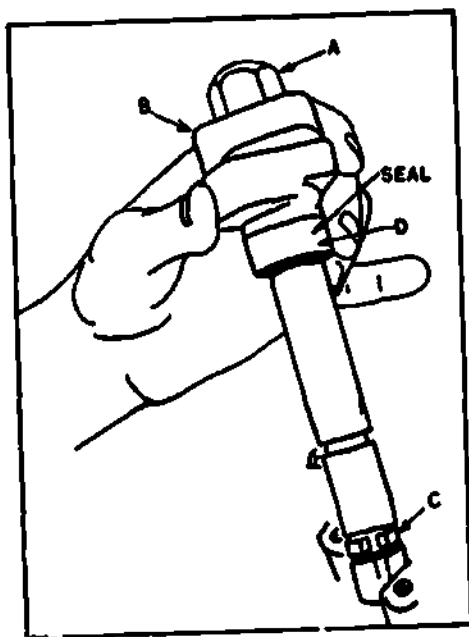

Fig 4-26. Removing or Installing fuel injector nozzle and holder assembly.
Remove the fuel injector nozzle and holder assembly (A, fig 4-26) with holddown clamp (B) attached. Remove the holddown clamp from the nozzle and holder assembly. Note the position of the dowel pin hole in the clamp and locating dowel pin in holder. Remove and discard the fuel injector nozzle gasket (C). Remove the dust seal (D). Do not discard the seal if it is serviceable. A new or serviceable seal must be installed at assembly. Plug openings to prevent entry of dirt.